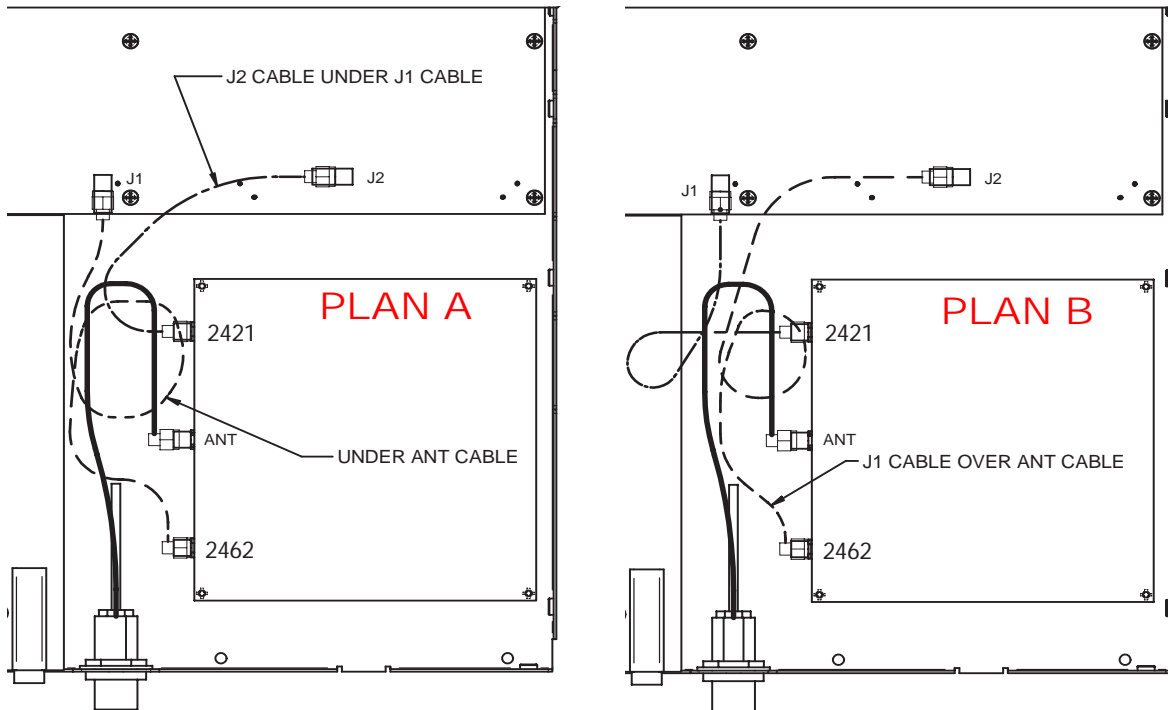

Figure 4. TRACER 4108 Cable Routing Diagrams
- Carefully flex the cables to swap the connections. Be careful with the RF cables, making sure that the minimum bend radius of the cable is greater than 0.75"; bends and loops smaller than a quarter will cause the RF cable to break. Use the wiring guidelines in Figure 4 and Figure 5 on page 4 for help with wire placement. Click here for a digital picture of this step.